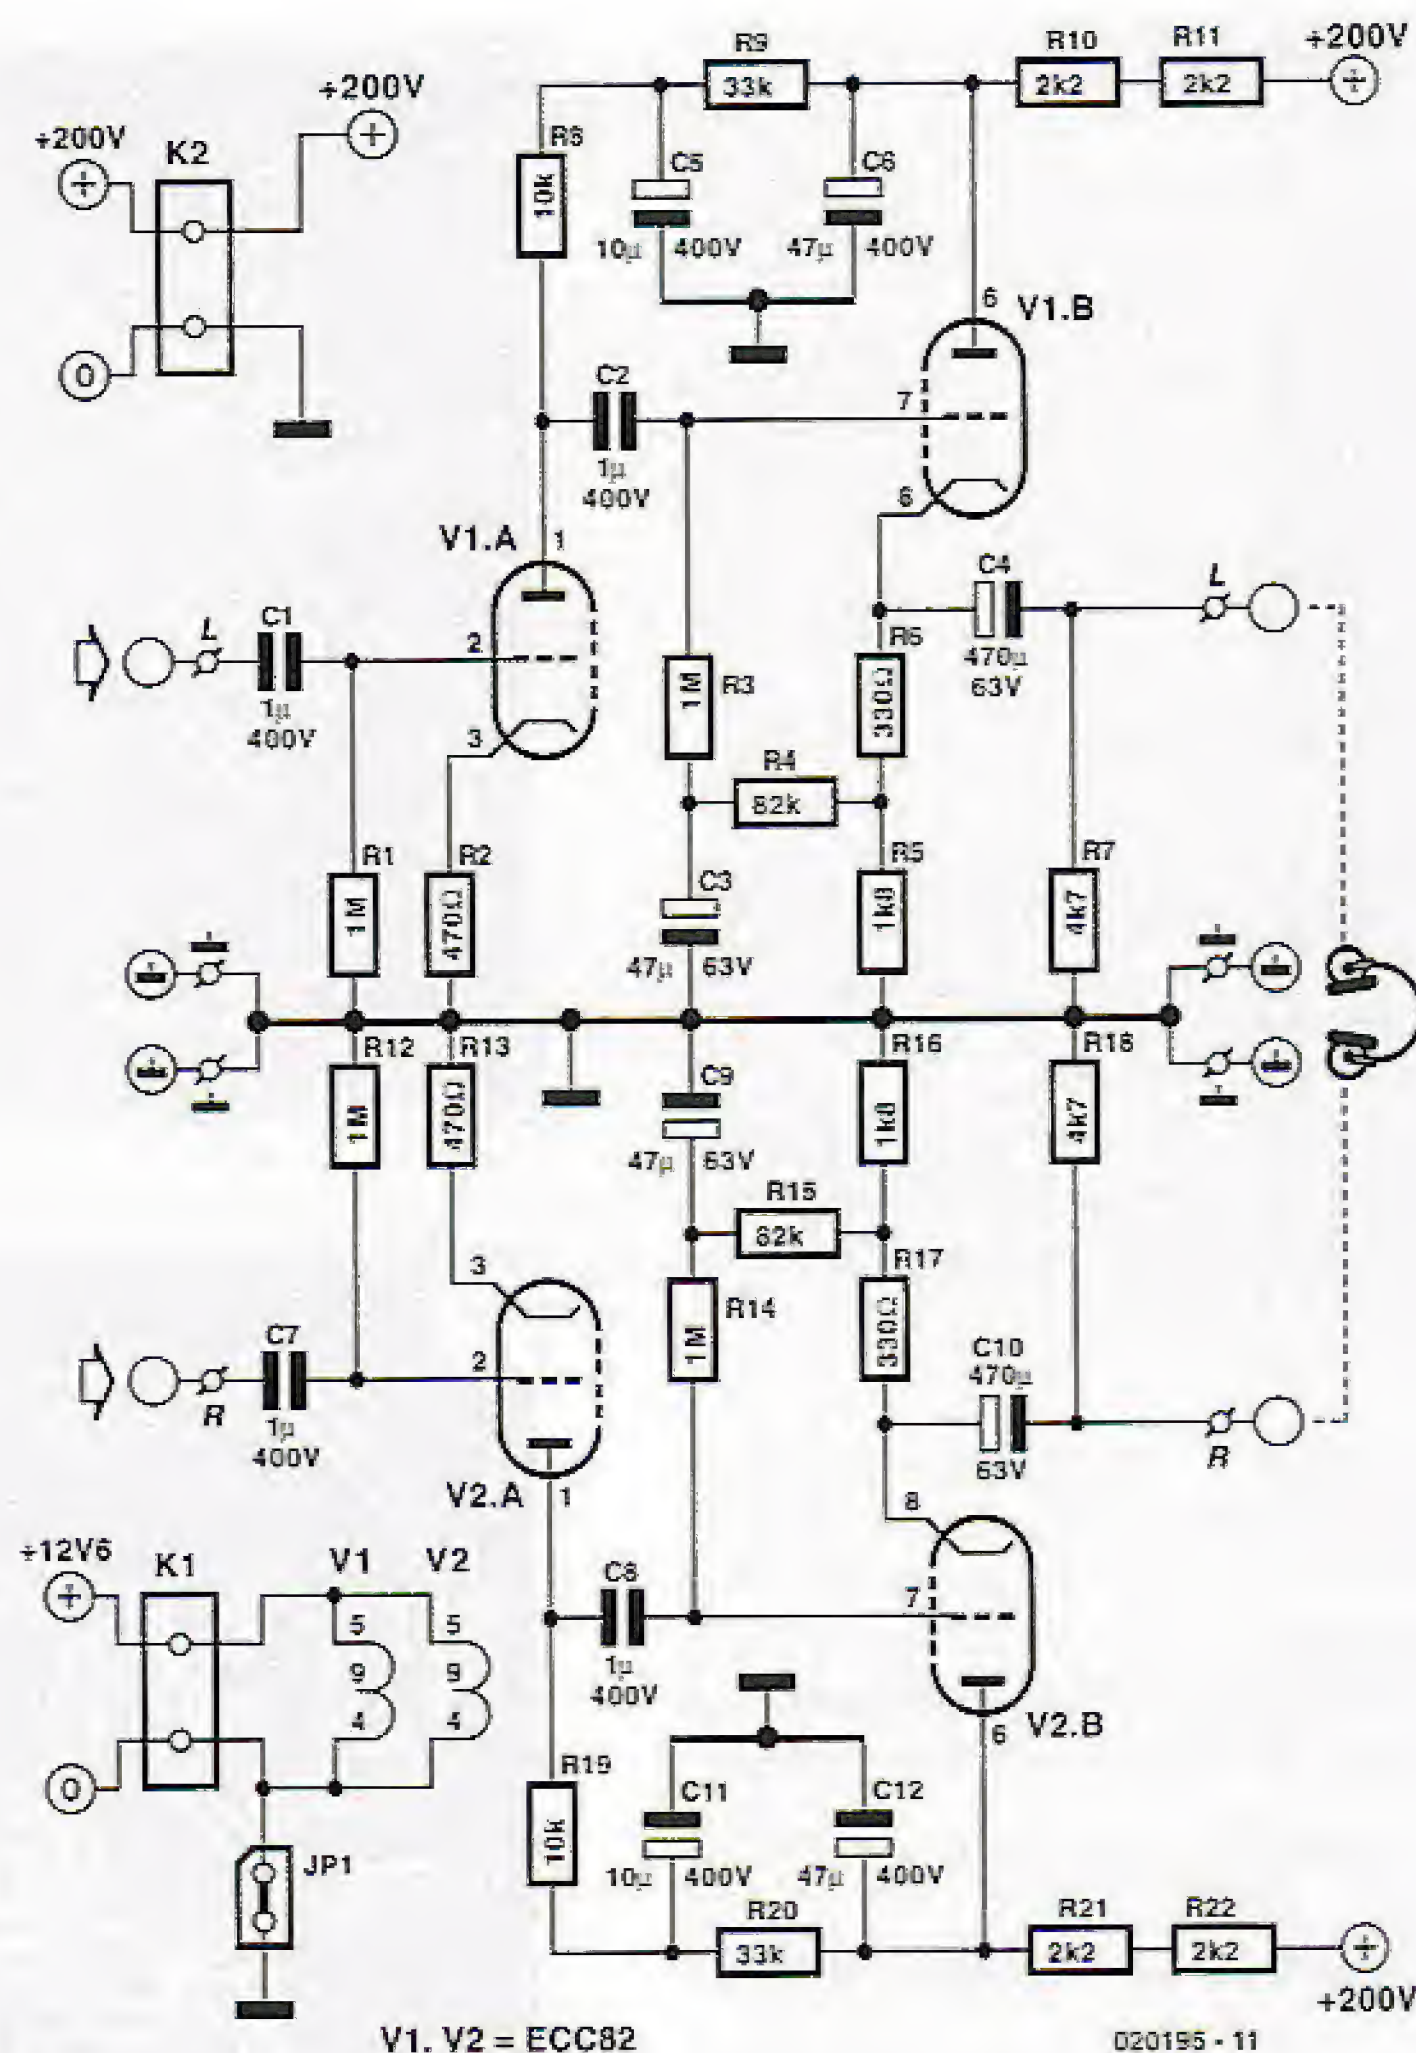

Figure 1. Schematic diagram of the amplifier using two ECC82 (12AU7) valves.
The circuit shown in **Figure 1** uses the readily available ECC82 double triode (equivalent to the North American 12AU7) to provide amplification. In Europe, 'special quality' (SQ) versions of this valve with better specifications and longer service life are also available under type numbers E802CC and E82CC, respectively.